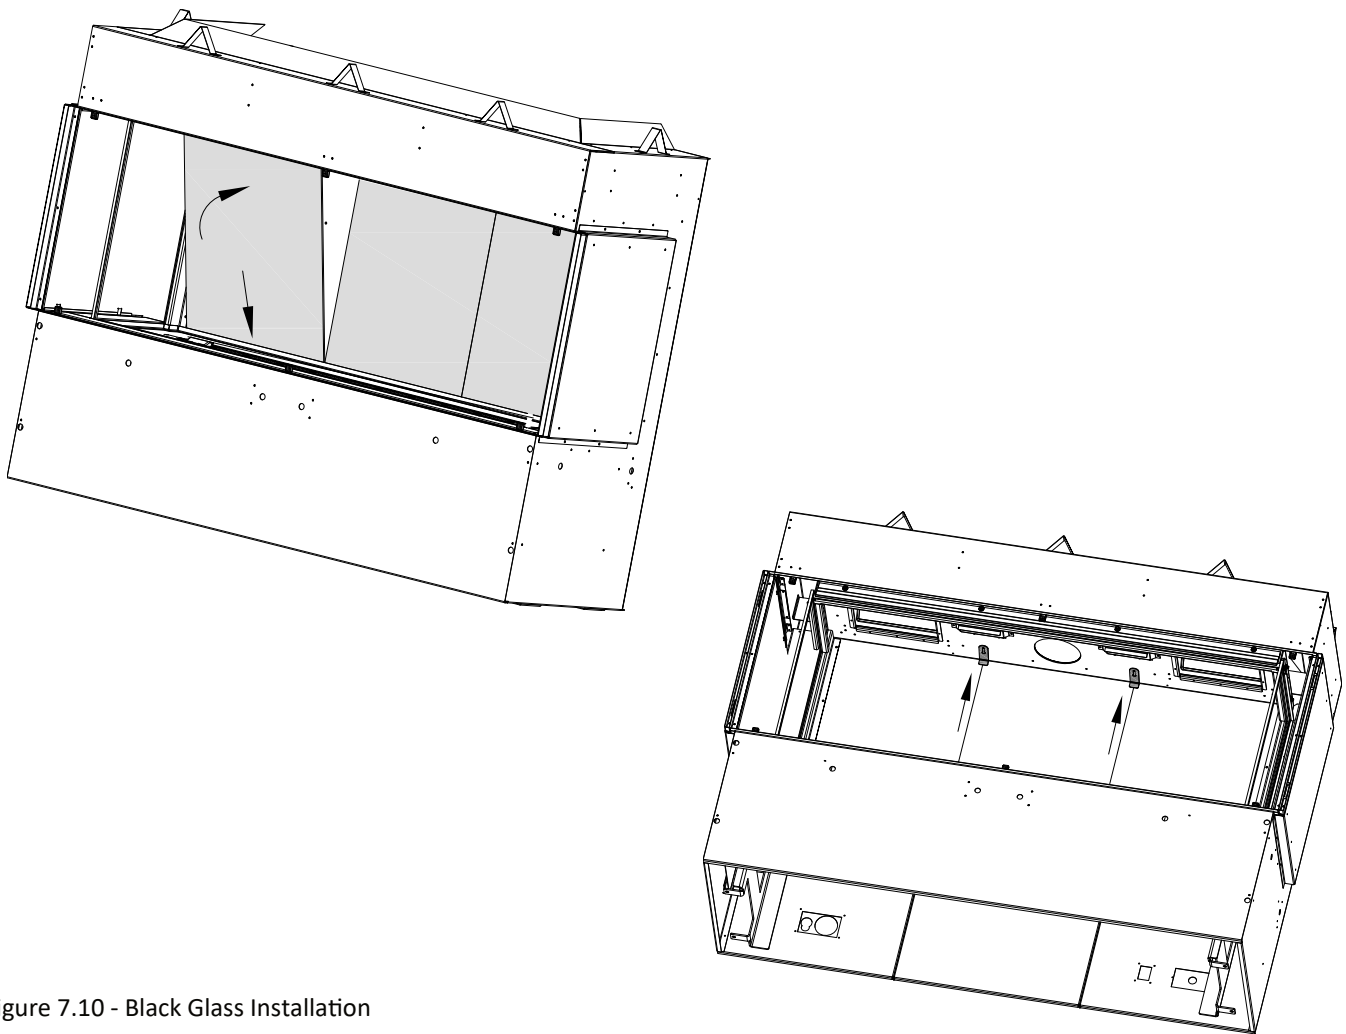

Figure 7.10 - Black Glass Installation
2. Install the (3) rear interior firebox black glass panels. These three panels are the same size and interchangeable. Secure with (2) rear firebox panel clips and (2) sheet metal screws as shown. See Figure 7.10.